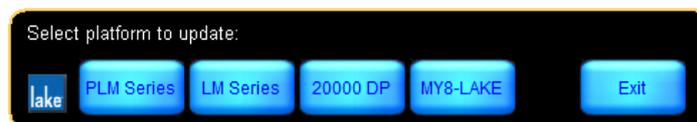

Figure 25-1: Device Platform Selection Dialog
4. Select the platform to update from the dialog that is displayed as shown in Figure 25-1.